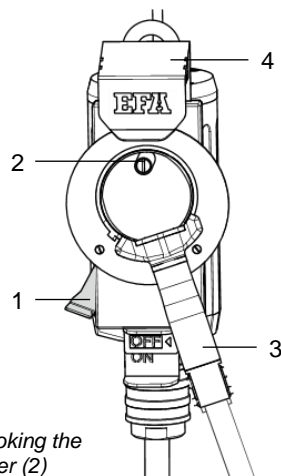

Fig. 6.2 – Unhooking the trimmer (2)
- 2) Hold the locking lever (1) in this position, *see Fig. 6.2*.
- 3) Take the EFA trimmer (3) off the holding bar (2), *see Fig. 6.2*.
- 4) Release the locking lever (1), *see Fig. 6.2*.